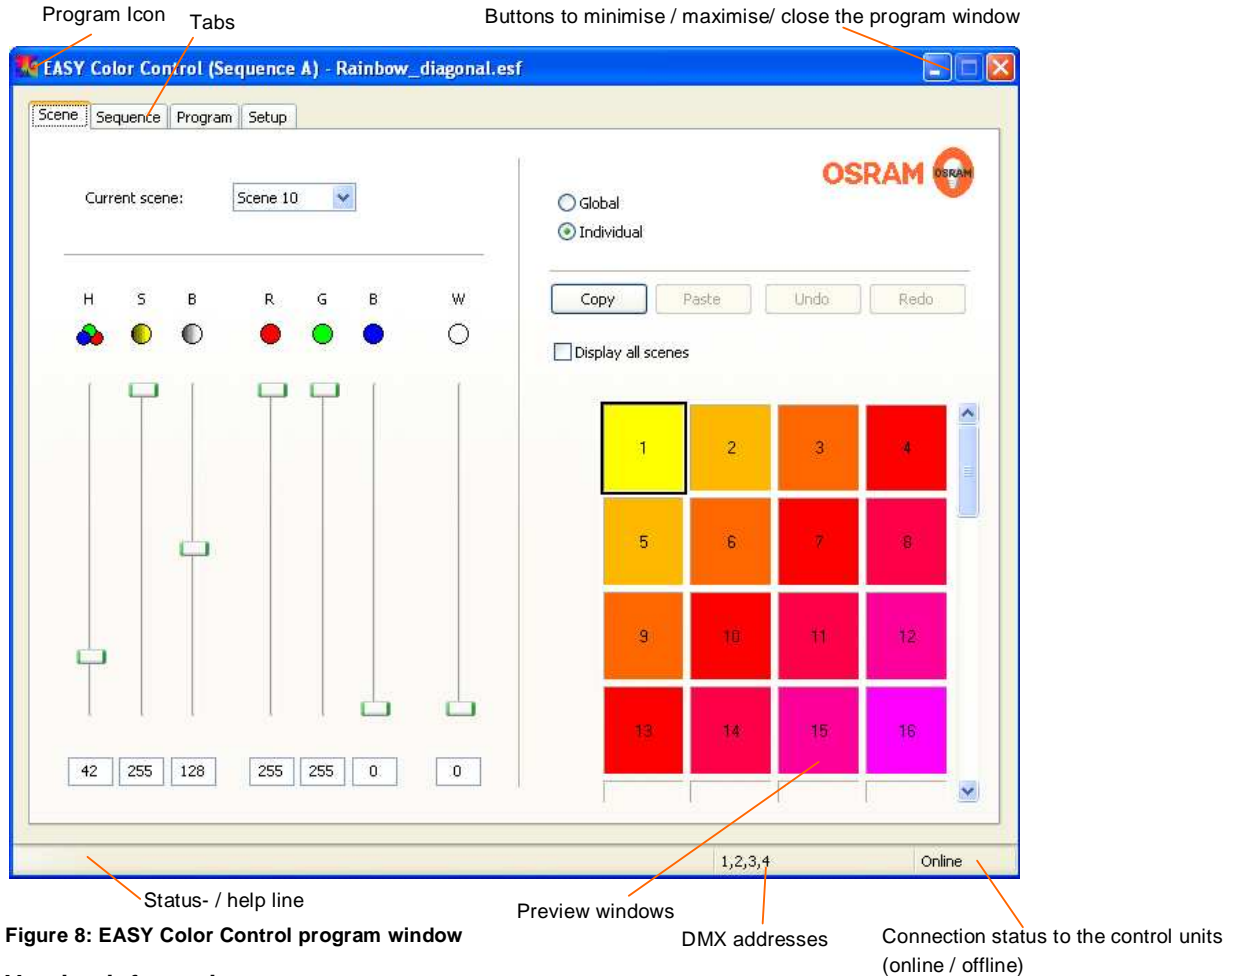

Figure 8: EASY Color Control program window
**Every unit, belonging to EASY DMX SO, shows the associated DMX addresses in the bottom of the software page** (see Figure 8). Depending on "Output configuration" settings, 2, 3 or 4 DMX addresses are associated to each units.